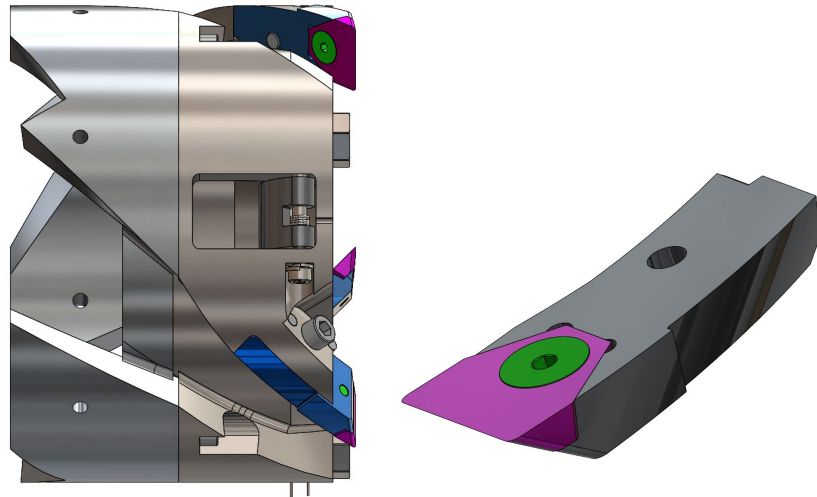

Figure 6: Left - Carbide Cutters Installed in the Cutter Head. Right - Carbide Cutter Assembly.
7.1.1 The IDDO hand auger can be equipped with either one-piece steel cutters or carbide cutters. Both styles of cutters attach to the cutter head in the same fashion. The carbide cutters are an assembly of three parts, including the insert holder, carbide insert and insert screw (Figure 6 - right). Carbide cutters are recommended for coring dirty ice since they are more wear resistant than the steel cutters, are consumable, and can be easily replaced as they dull. Refer to Appendix D: Special Drilling Conditions (Section 10.0) for more information on when to use carbide cutters.
### 7.2.1 Installing a collet (Figure 6):